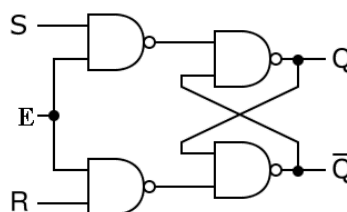

Figure 8.6: Latch with enable input
- The output of the latch constructed in last task is affected whenever there is a change in its inputs. This behavior can sometimes be undesirable and it is modified by introduction of a *control/enable* input as shown in Figure 8.6 such that the control input determines when the state of the latch is to be affected. Modify your code to implement the latch of Figure 8.6 with control input E. You may choose any modeling style; structural or dataflow. [2]
- To avoid the “not allowed” combination of S and R in an SR latch, only one data input “D” is used at S, and its complement is fed in place of R. Such a latch is called a D-latch. Modify the circuit of Figure 8.6 to implement a D-latch according to this description and draw here: [1]